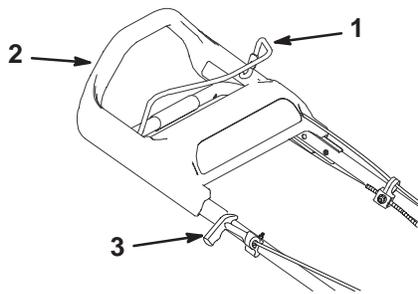

Figure 8
The starter handle and the blade control bail are on the upper handle as shown in Figure 8.
3. Hold the blade control bail against the upper handle (Fig. 8).
4. Pull the starter handle lightly until you feel resistance, then pull it sharply (Fig. 8). Allow the rope return to the handle slowly.